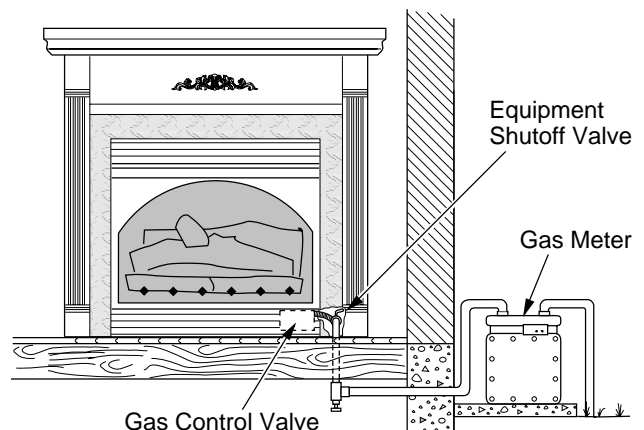

Figure 21 - Checking Gas Joints
- Check all joints from gas meter to equipment shutoff valve (see Figure 21). Apply noncorrosive leak detection fluid to all joints. Bubbles forming show a leak.
- Check all joints from equipment shutoff valve to gas control valve (see Figure 21). Apply noncorrosive leak detection fluid to all joints. Bubbles forming show a leak.